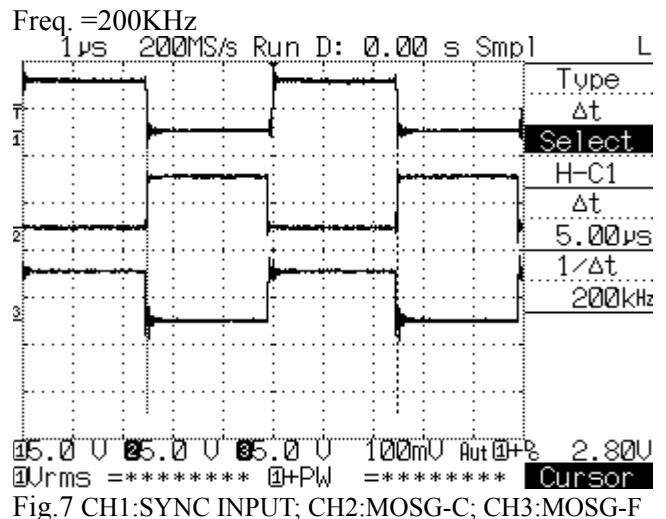
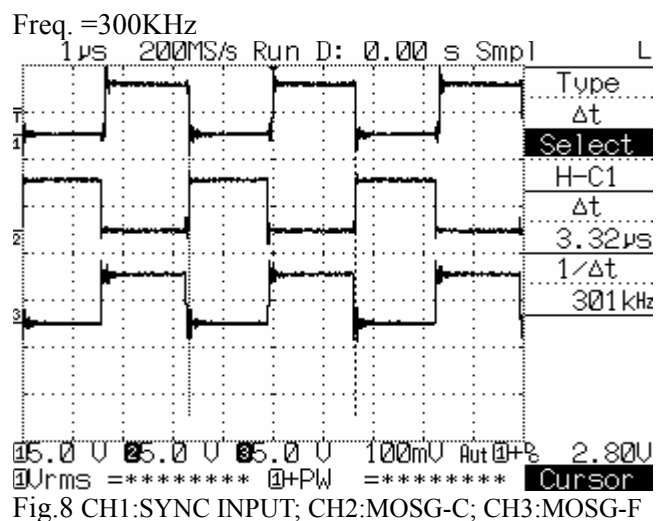

Fig.7 CH1:SYNC INPUT; CH2:MOSG-C; CH3:MOSG-F
Fig.8 CH1:SYNC INPUT; CH2:MOSG-C; CH3:MOSG-F
- (1) R4 is removed & function generator is used to force square waveform on pin8. Adjust Sync threshold high voltage>3.9V and sync threshold low voltage<0.9V.
- (2) +5V is forced on pin7 (VDD pin).
- (3) At the drain of each MOSFET, connect 100ohm to pull up +5V(VDD)
- (4) Fig.6 : $f = 100KHz$; Fig.7 : $f = 200KHz$; Fig.8 : $f = 300KHz$